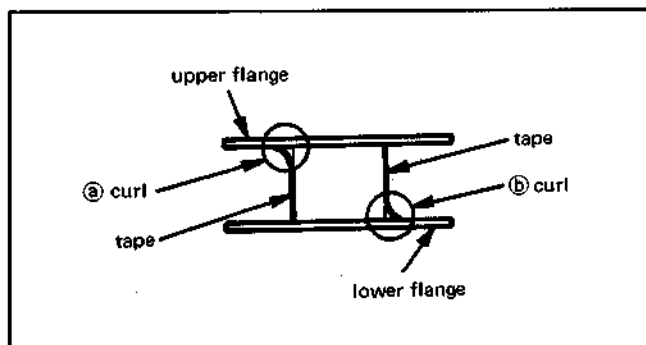
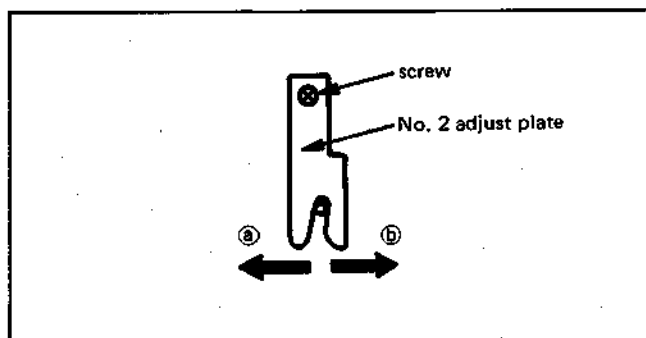

Fig. 3-23 S Reel
Fig. 3-24
- 2) For curl at the S reel upper flange: (Fig. 3-23 ③) Loosen the No. 2 adjust plate screw, move the plate in the direction of arrow ③ in Fig. 3-24 and tighten the screw.
For tape curl at the lower flange: (Fig. 3-23 ④) Loosen the No. 2 adjust plate screw, move the plate in the direction of arrow ④ in Fig. 3-24 and tighten the screw.